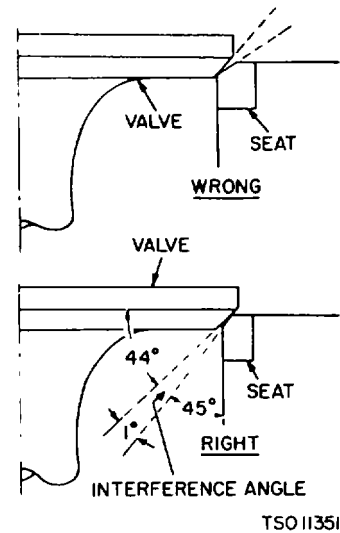

Figure 6-18. Valve Face and Seat Angles
- c. The valve face angle is 44 degrees. The valve seat angle is 45 degrees. This 1-degree interference angle results in a sharp seating surface between the valve and the top of the valve seat. The interference angle method of grinding valves minimizes face deposits and lengthens valve life (fig. 6-18).